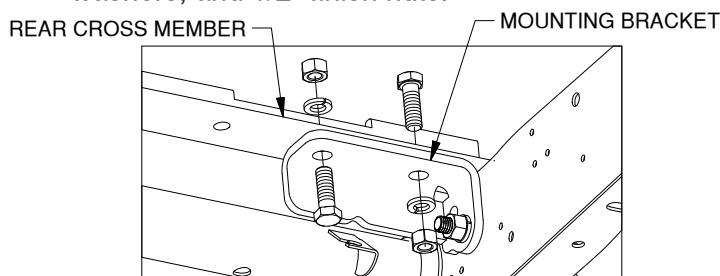

Figure C2: Looking at passenger side mounting bracket.
- 2. Secure rear cross member.** Attach the rear cross member to the cross member brackets, as shown in Figure C2, with 1/2" x 1-1/2" cap screws, 1/2" lock washers, and 1/2" finish nuts.